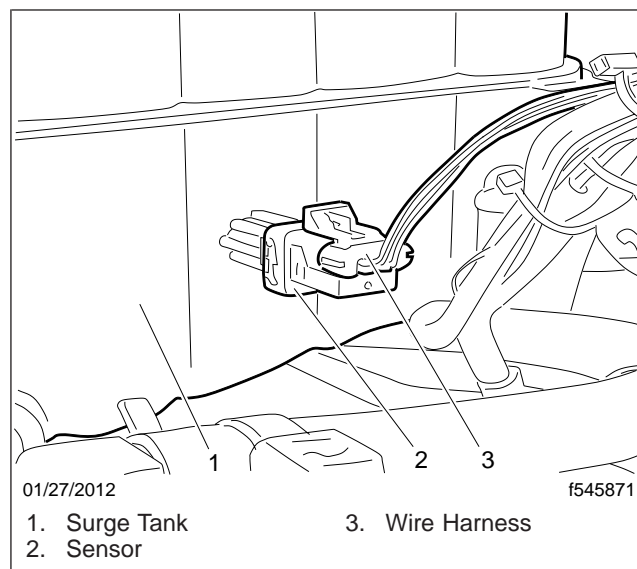

Fig. 1, Low Coolant Level Sensor Installation
5. Remove the sensor from the surge tank. See Fig. 1.